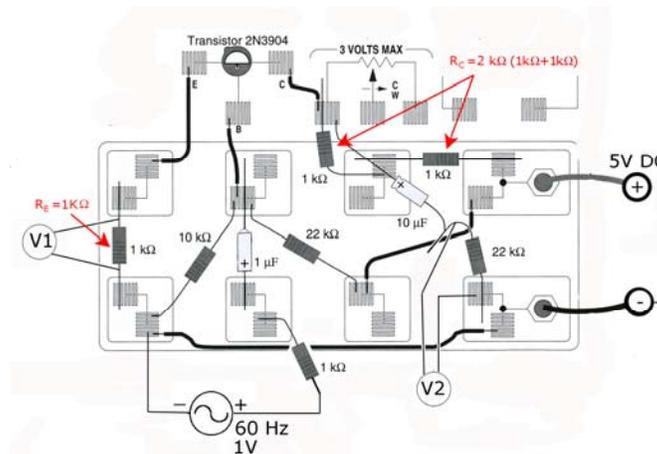

Fig. 13: circuit to build in step 21.
21. Measure the precise resistance values of \$R_E\$ and \$R_C\$ as illustrated in Fig. 13 and build the circuit. Attach the voltage sensors last. Connect a patch cord from the negative terminal (black) of the DC power supply to the ground terminal (green) of the same unit.